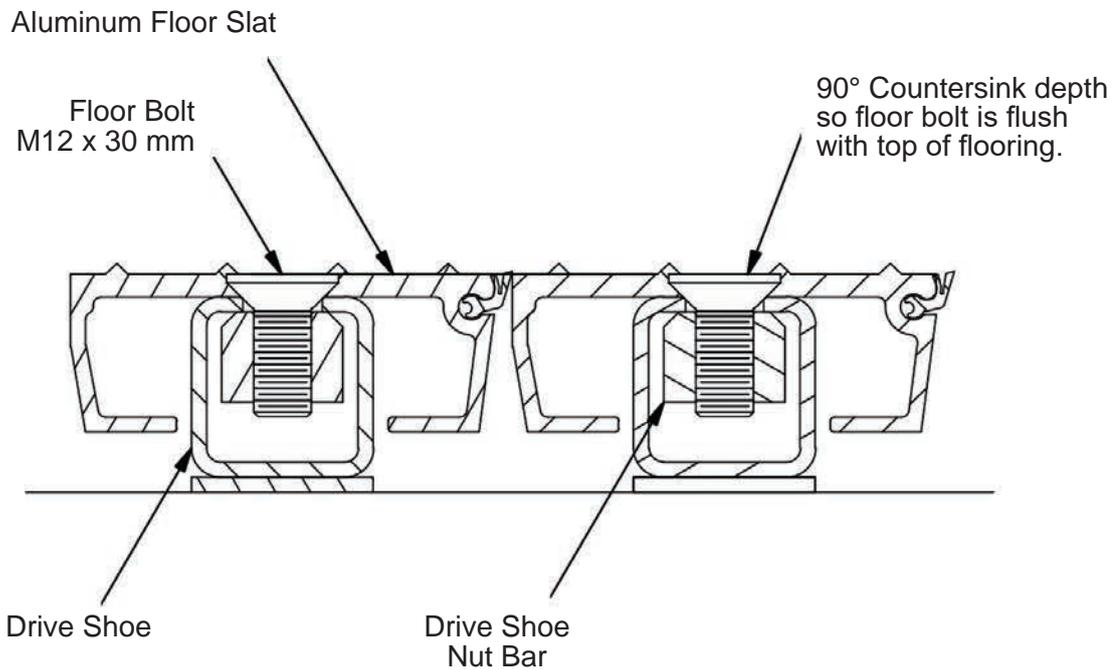

Figure 20
4. Counter sink holes in aluminum slats only. Do not countersink holes in UHMW floor slats. Using a 90° countersink to a depth so the floor bolts are flush with top of floor slat. It is critical to get a good countersink depth for a tight fit. If possible, it is suggested to use a preset drill press for uniform hole depth. (Figure 20)
Sikaflex the floor bolts and the countersunk hole surface before inserting bolt. (Figures 20 & 21)